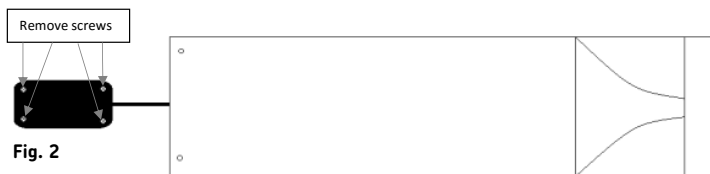

Fig. 2
- Remove the four junction box screws and remove the cover (see Fig. 2)